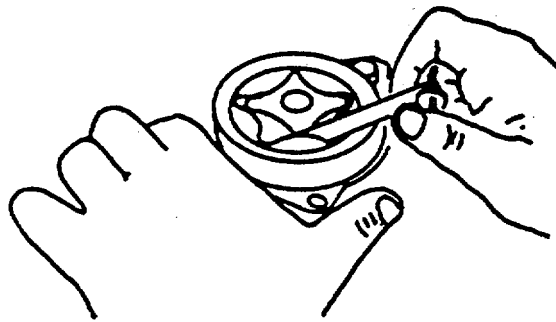

FIGURE 3-64. Tip Clearance Measurement.
- g. Measure the tip clearance (FIGURE 3-64). Maximum: 0.007 inch (0.1678 mm).